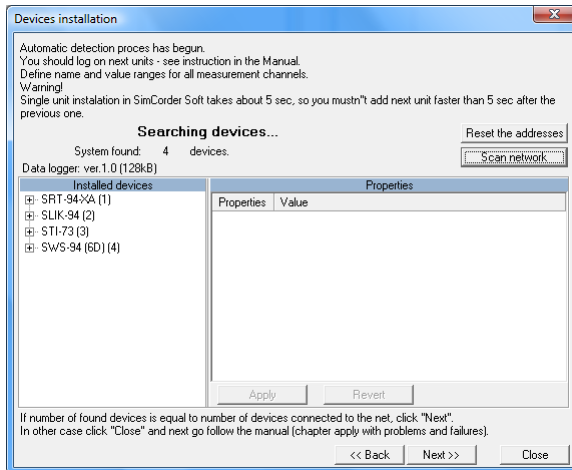

Figure 2.3. Automatic device detection mode
4. After defining the communications port and baud rate, go to device detection screen (**Figure 2.3**) by clicking on the **[Next>>]** button.
The list shown on the figure (**Figure 2.3**) contains all detected devices. Date and time of installation allows identification of the devices (can be useful while settings of devices' names). In addition this screen informs that Data logger has been detected. Such informations can be confirmation of correct port selection.
After initial configuration of all the devices connected to the network, button **[Scan network]** (**Figure 2.3**) should be pressed on the PC screen to run network scanning. Software will scan the network, detect connected (and properly preconfigured) devices and create list of devices.